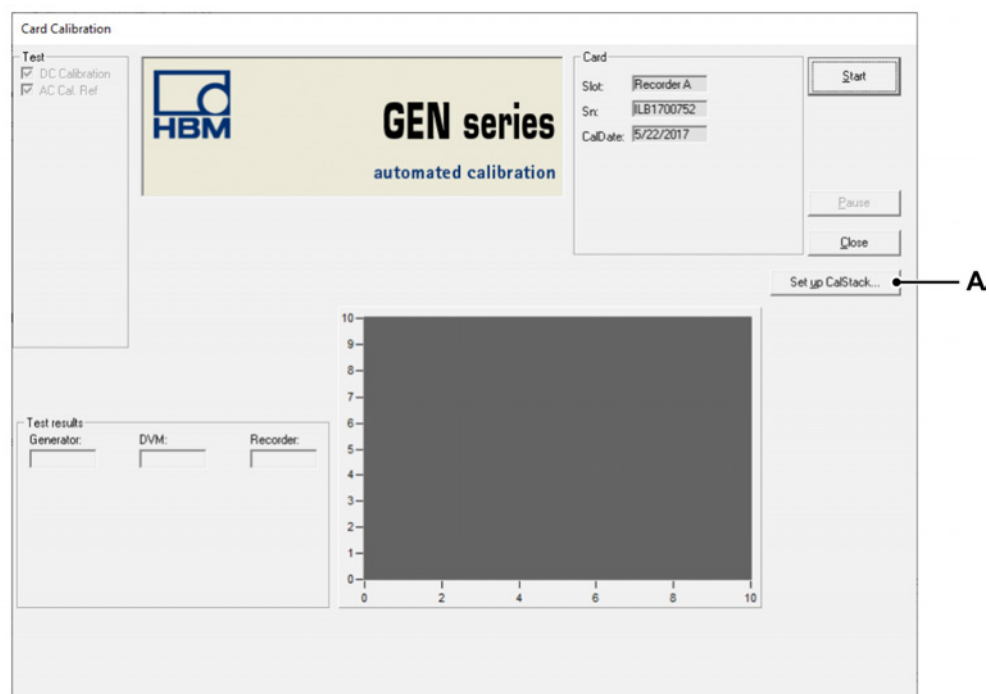
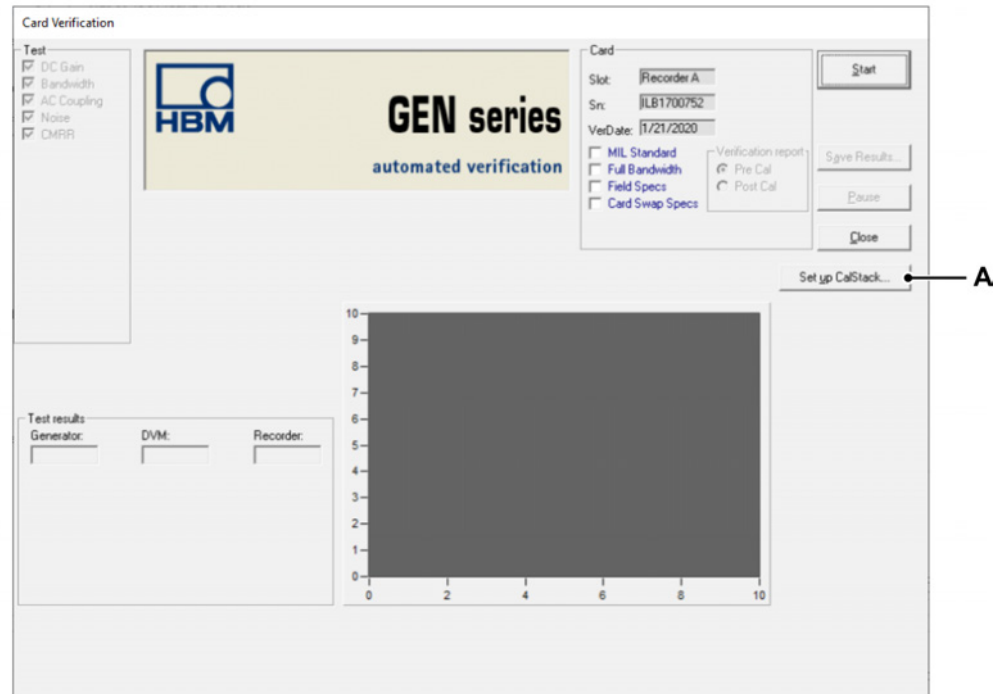
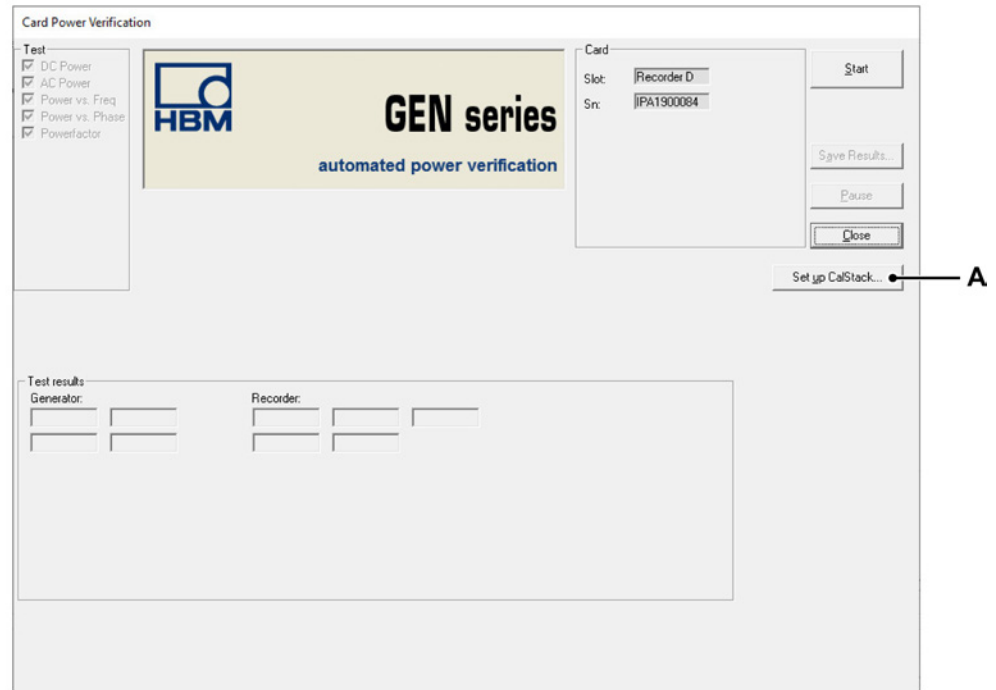

Figure 4.12: Card Calibration window
Figure 4.13: Card Verification window
Figure 4.14: Card Power Verification window
- 1 Click **Calibrate...** to open the *Card Calibration* window (see Figure 4.12), **or** click **Verify...** to open the *Card Verification* window (see Figure 4.13). Click **Power Verify ...** to open the *Card Power Verification* window (see Figure 4.14). This button will be hidden when the selected card doesn't support power verification.